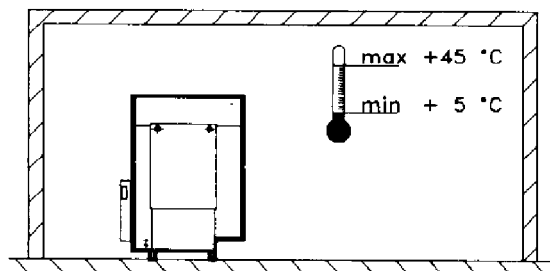

Fig. 8 Room temperature
- Ensure adequate ventilation. Remember: room temperature = cooling air temperature ! Min. = +5 °C, max. = +45 °C. Fig. 8.